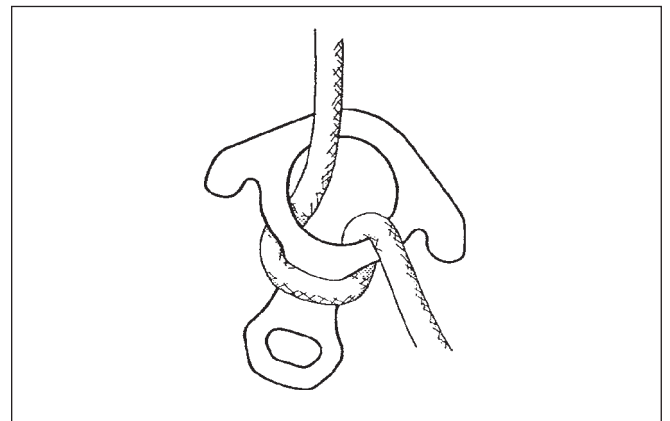

Figure 6d—A rigged figure-8 descender.
- E. Looking down at the figure-8 descender, feed the standing part of the rope down through the large hole, pass it around and over the top of the waist of the figure-8 descender, and back up through the large hole to become the running part of the rope (figure 6d). The running part of the rope should come out of the large hole on the same side as the braking hand (normally the dominant hand).